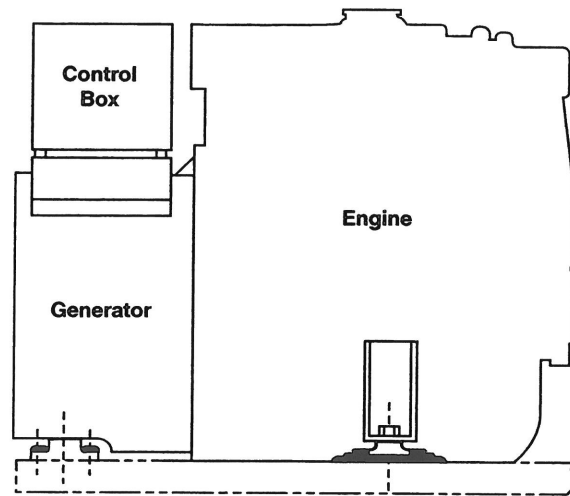

Figure 22: Composition.
1. A Generator Set includes the engine, the generator, and the control or "J" box (Figure 22).